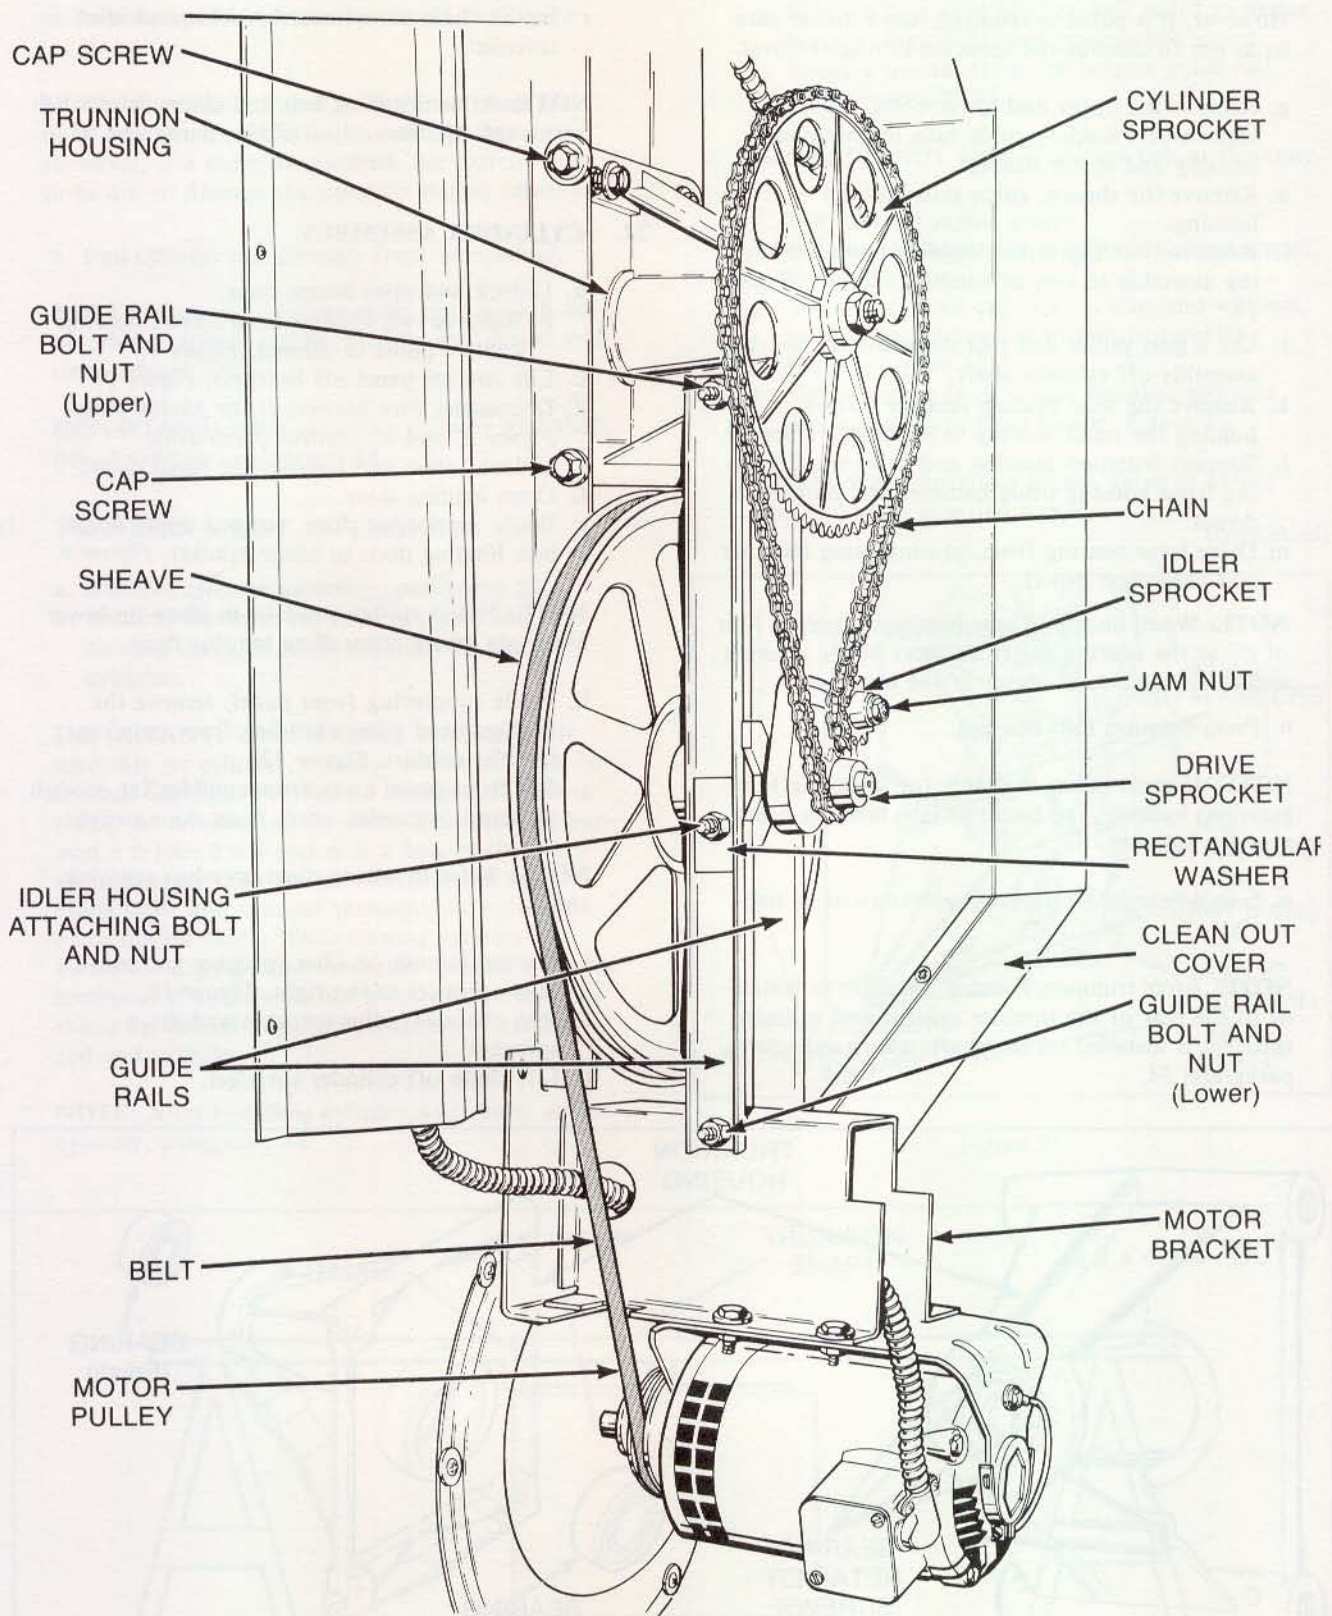

Figure 18
- c. Run belt off sheave and motor pulley, *Figure 18*.
- d. Loosen upper bolt and nut holding guide rails to trunnion housing, *Figure 18*.
**16. CHAIN** (*Refer to Figure 18*)
**17. IDLER SPROCKET** (*Refer to Figure 18*).
**18. SHEAVE** (*Refer to Figure 18*)
**19. IDLER HOUSING** (*Refer to Figure 18*)
**20. CYLINDER SPROCKET** (*Refer to Figure 18*)
i. Remove four cap screws holding trunnion housing assembly to rear of tumbler cabinet, *Figure 18*.
j. Loosen jamnut on idler sprocket and move idler sprocket to the right, *Figure 18*.
m. Remove sprocket from cylinder shaft, *Figure 18*.
- b. Loosen nut on top guide rail bolt, *Figure 18*.
- d. Remove the nut from the bottom guide rail bolt, *Figure 18*.